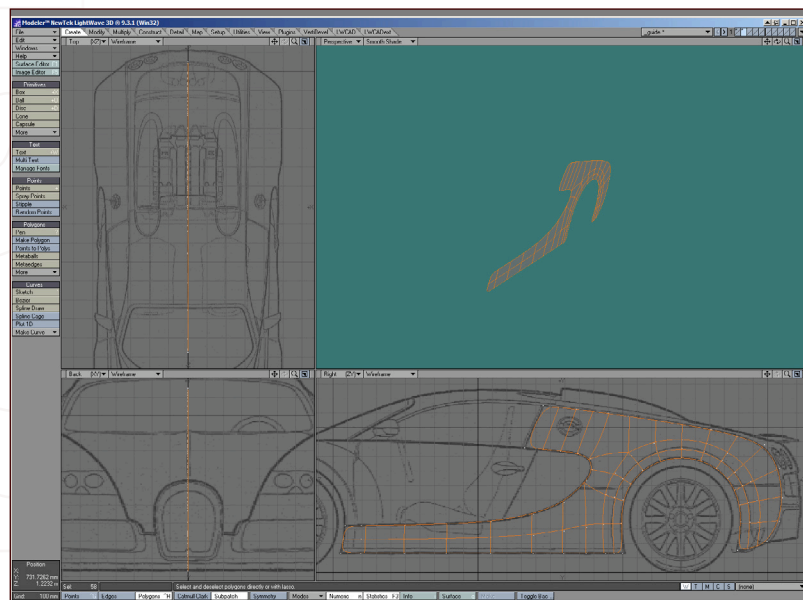

Fig 11
11. What we have done here is simple. With the points selected, we use the extender tool. The scale tool is then used to scale in the loop from the original outline. Repeat the process a second time and scale in again. Do make sure you have the mode set to "Centre on Mouse". By visually centralising your mouse pointer with the selection, you'll minimise any additional point moving required (**Fig11**).